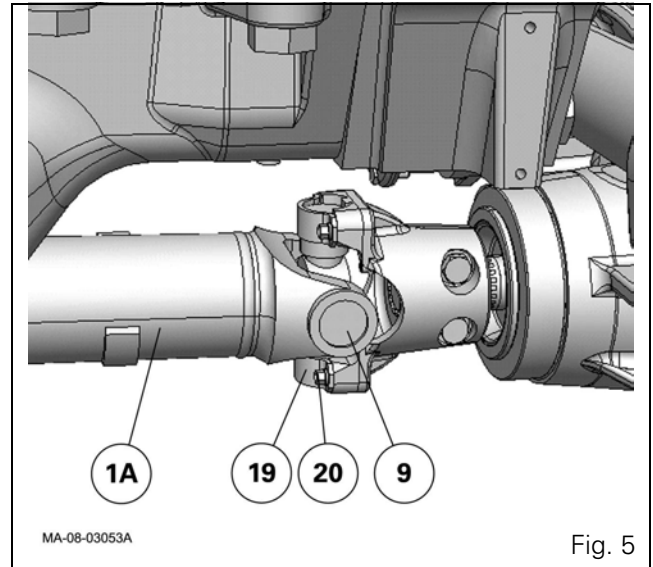

Fig. 5
2. Remove the guards (2) (2A).
3. Unscrew the dust cover nut (8).
4. Remove the screws (20) and flanges (19) (Fig. 5).
5. Move the universal joint shaft assembly (1A) and the universal joint spider (9) away from the drive pinion carrier. Remove the shaft.